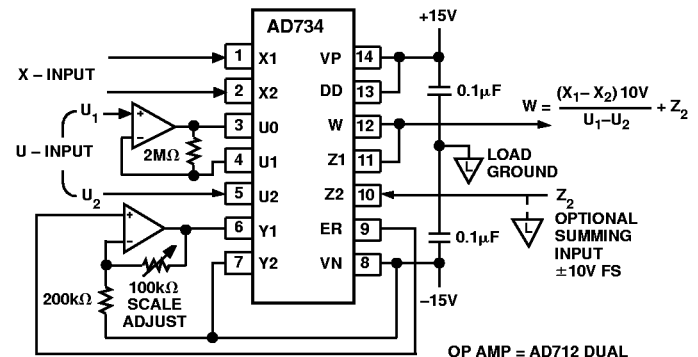

Figure 12. Two-Quadrant Divider with Fixed 10 V Scaling
The output ER may also be buffered, re-scaled and used as a general-purpose reference voltage. It is generated with respect to the negative supply line Pin 8 (VN), but this is acceptable when driving one of the signal interfaces. An example is shown in Figure 12, where a fixed numerator of 10 V is generated for a divider application. There, Y_2 is tied to VN but Y_1 is 10 V above this; therefore the common-mode voltage at this interface is still 5 V above VN, which satisfies the internal biasing requirements (see Specifications table).
Where a numerator of 10 V is needed, to implement a two-quadrant divider with fixed scaling, the connections shown in Figure 12 may be used. The reference voltage output appearing between Pin 9 (ER) and Pin 8 (VN) is amplified and buffered by the second op amp, to impose 10 V across the Y1/Y2 input. Note that Y2 is connected to the negative supply in this application. This is permissible because the common-mode voltage is still high enough to meet the internal requirements. The transfer function is